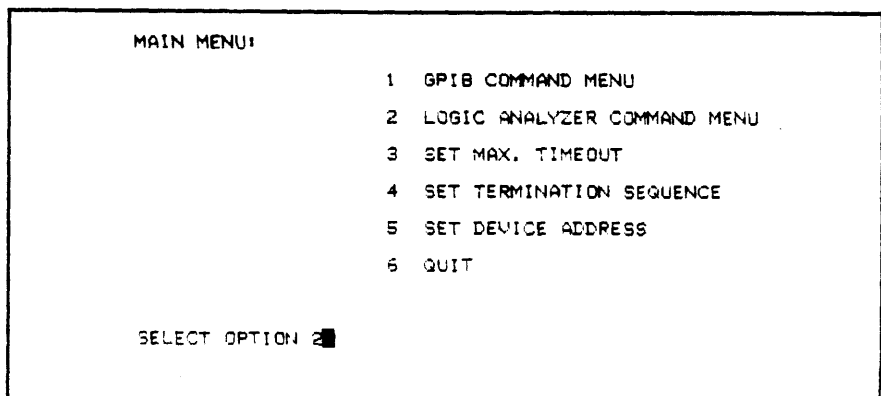

Figure 14-4. MAIN MENU.
2. Type **CRUN2 GPIBEX (RETURN)**. After a short delay, when the main menu is displayed, select the LOGIC ANALYZER COMMAND MENU (option 2) as shown in Figure 14-4.